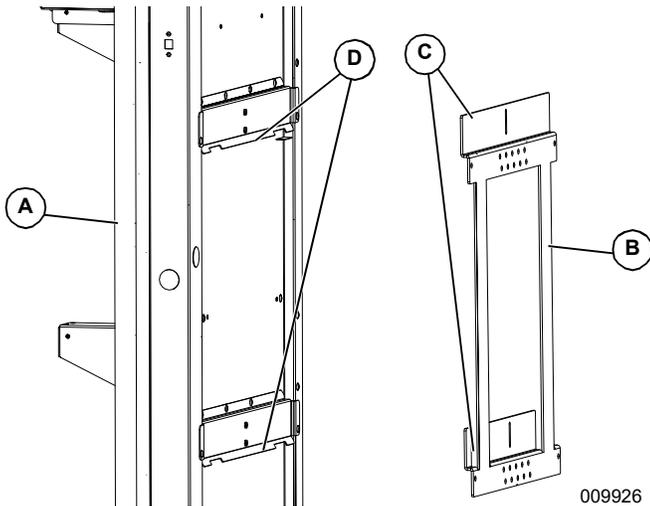

Figure 4-7. Mounting Bracket (1 of 2)
1. See **Figure 4-7**. Lift body (A) onto bracket (B). Keep body tight to the wall while lowering body onto bracket. Verify bracket tabs (C) hook into body pockets (D).